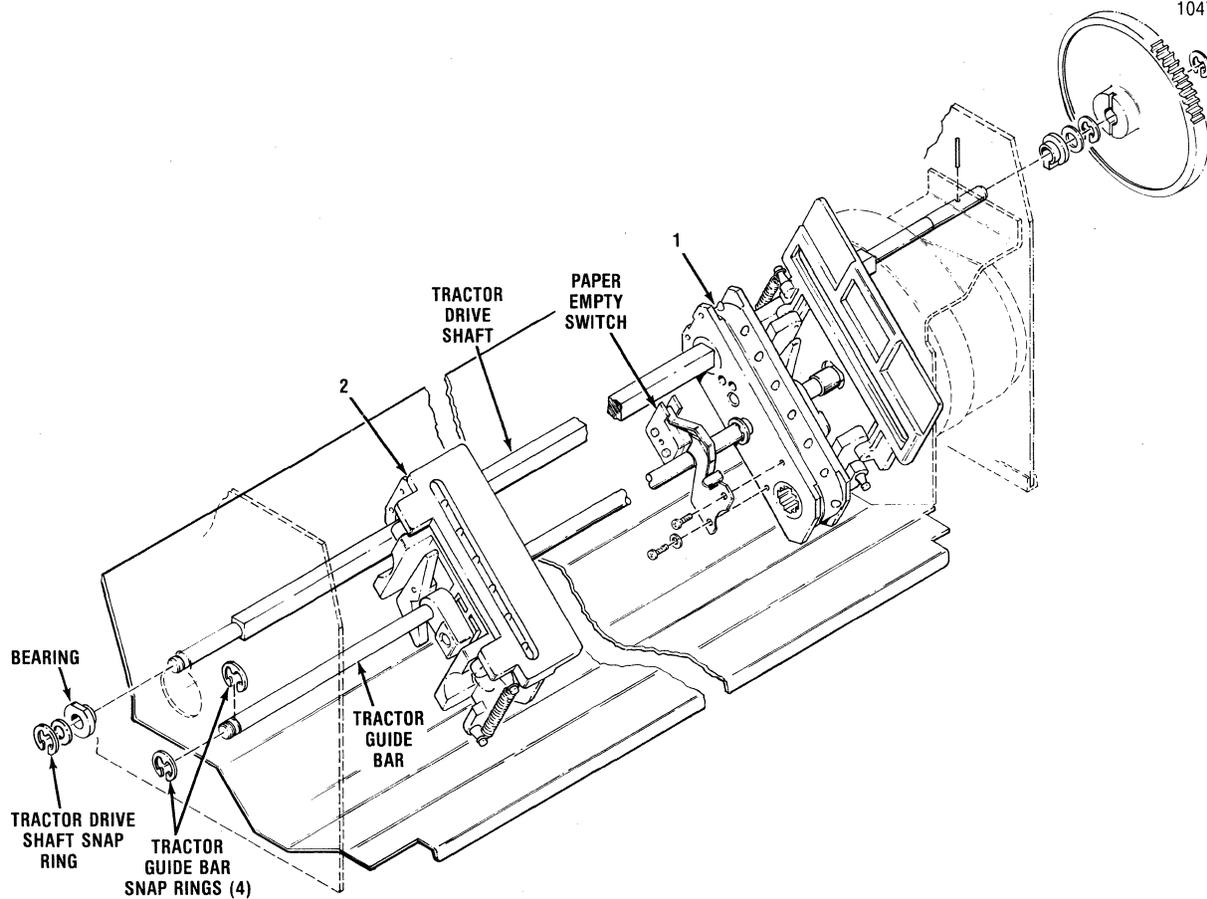

Figure 5-19 Removal/Replacement, Tractor Assemblies
The left and right tractor assemblies, items 1 and 2 of Figure 5-19, are located on the tractor drive shaft and the tractor guide bar. The tractors are removed using a snap ring tool. To remove the tractors, refer to Figure 5-19 and perform the following steps:
5. Remove the tractor drive shaft snap ring and washer from the left end of the shaft (ring & washer are labeled in Figure 5-19).
6. Slide the bearing labeled in Figure 5-19 to the left, causing the guide shaft to drop to the hole below.